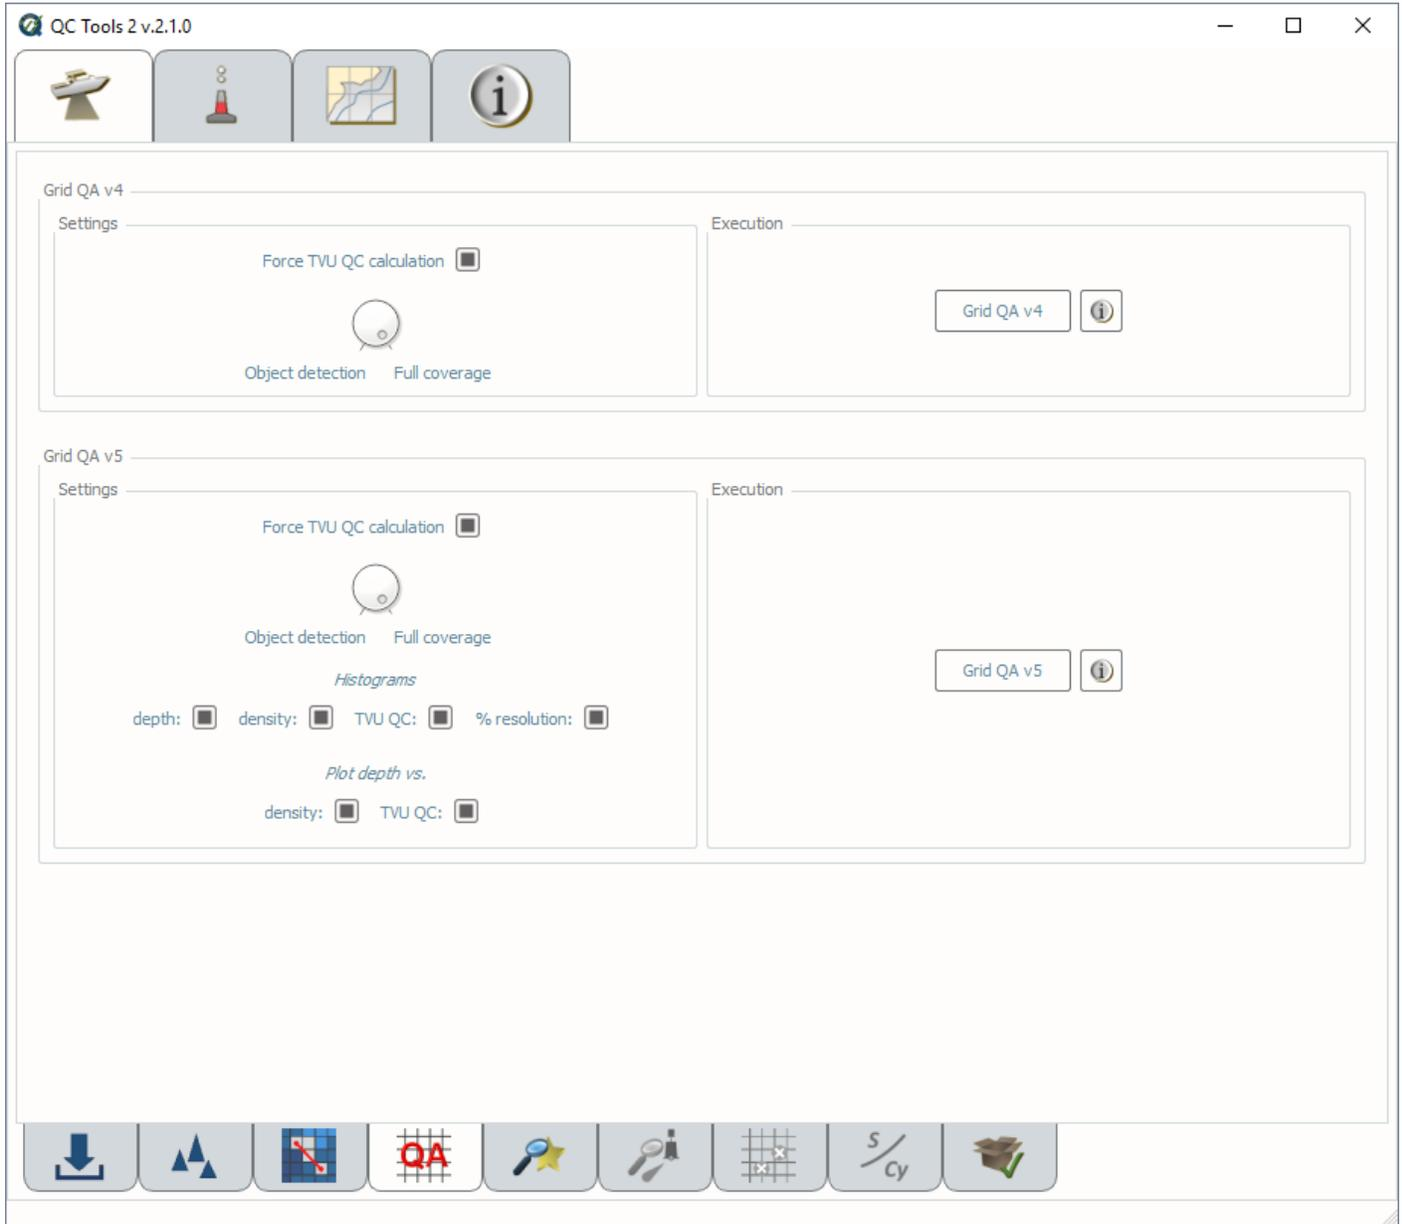

Fig. 2.16: The **Grid QA** tab.
- Select the **Grid QA** tab (Fig. 2.16) on the bottom of the QC Tools interface.